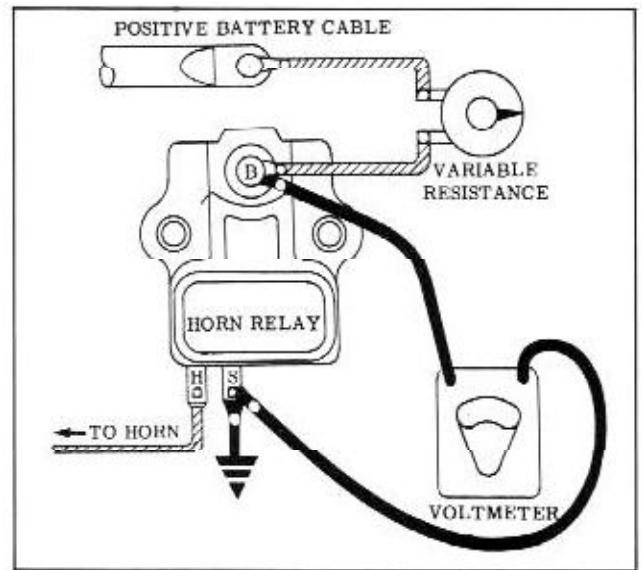

Fig. 13-105 Checking Horn Relay
2. Connect a variable resistance of at least 10 ohms in series between battery cable and "B" terminal. (Fig. 13-105)